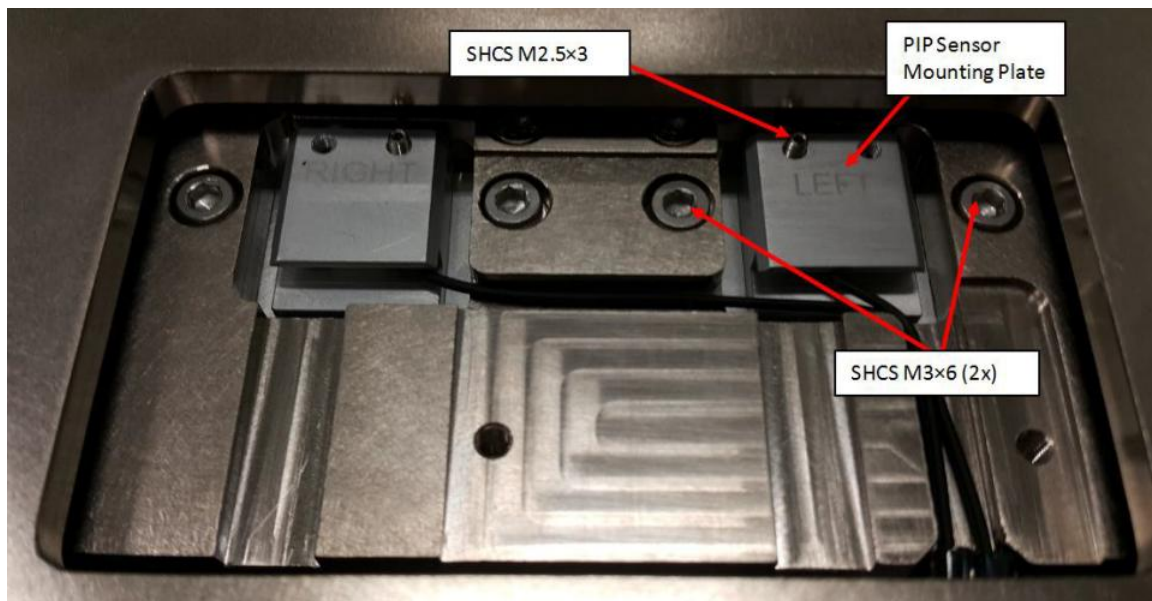
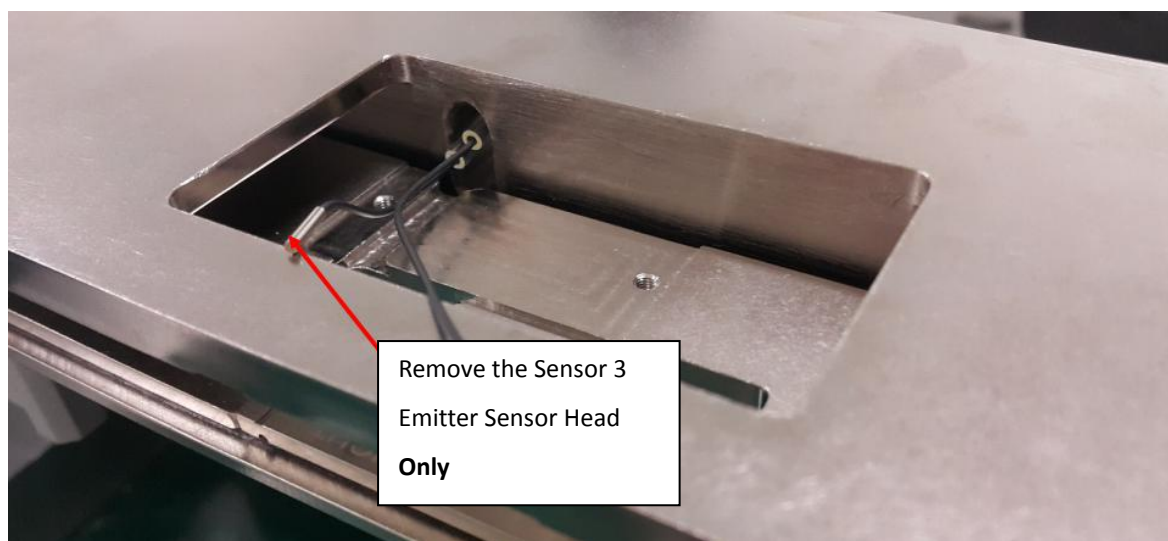

Figure 5 Sensor 3 Emitter
Figure 6 Sensor 3 Emitter (Sensor Head)
3. Open SHCS M3×6 (2x) from sensor 3 Emitter as shown in Figure 5. Then loosen SHCS M2.5×3. Remove Optical Sensor 3 Receiver Head from pip sensor mounting plate as shown in Figure 6